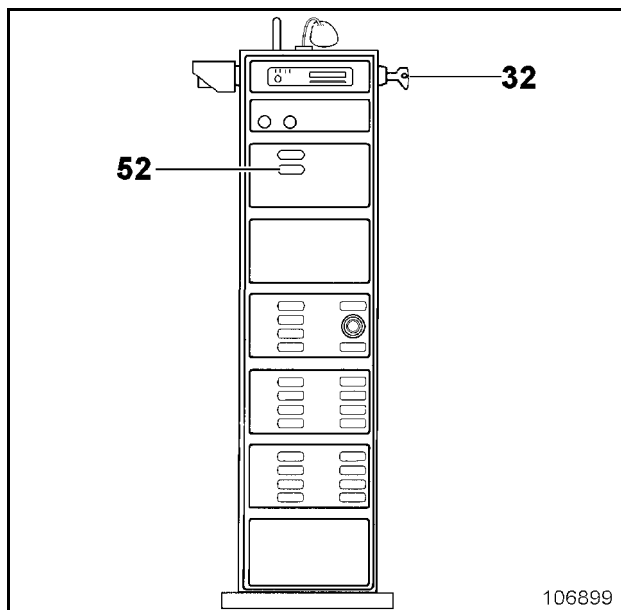

Fig. 2-66:
- Actuate switch-key (52, Fig. 2-66:). The electric motor starts running down.
- Turn key in key-switch (32) counter-clockwise and withdraw.